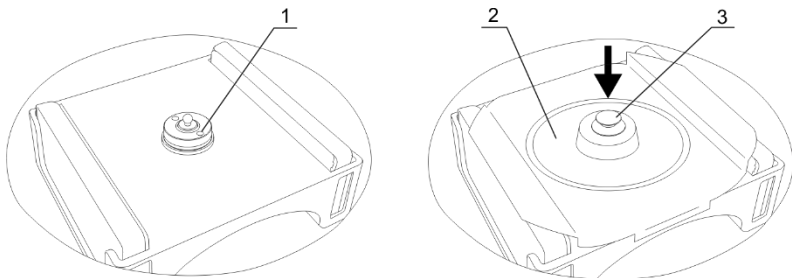

Figure 1. Rotor replacement
- Unscrew the fixation nut (fig. 1/1) counter clockwise using the wrench included in standard set and remove the nut.
- Place the rotor and secure it tightly with the fixation nut, placing the nut with the key holes up (fig.1/1) and turning it clockwise by the included wrench.
- Place the safety cover (fig. 1/2) on the rotor by pressing the cover clip (fig. 1/3) down.